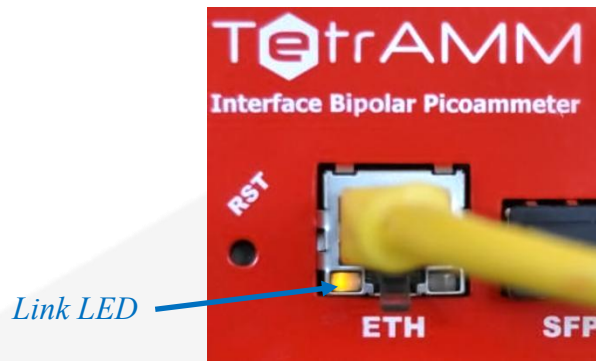

Figure 5: Ethernet Link
- perform a scan to discover the connected QDS devices by clicking the “*Scan*” button (see **Figure 5**). If there are multiple available networks it is possible to select the network/networks to be scanned in the “*Selected network interfaces*” window available under the “*Options*” menu. All the information about the selected devices is shown in the right side of the main window.